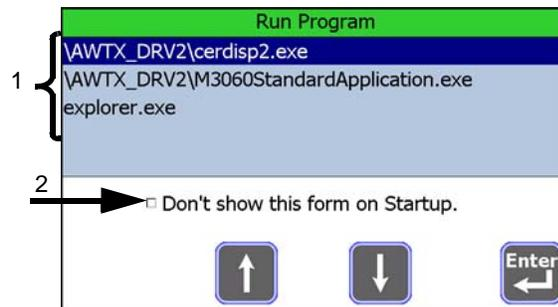

Figure 9.11 Select Application Screen
The screen in figure 9.11 shows a sample list of available applications (1) and a checkbox option(2).